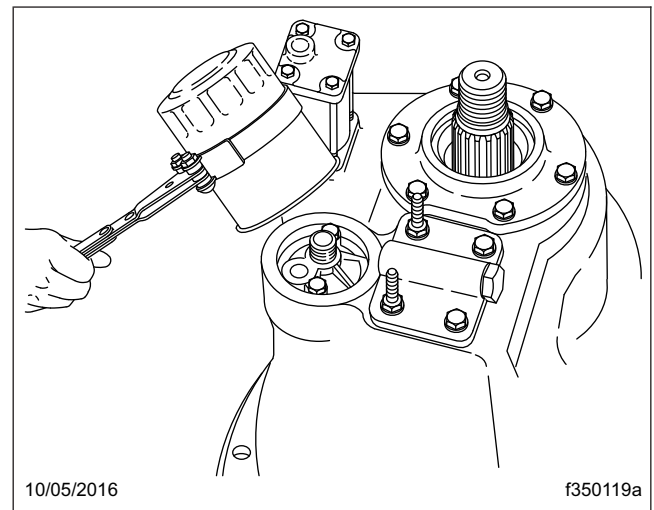

Fig. 6, Axle Oil Filter Removal
3. If so equipped, replace the axle oil filter. Remove the oil filter, using a suitable filter strap wrench. See **Fig. 6**. Discard the filter.